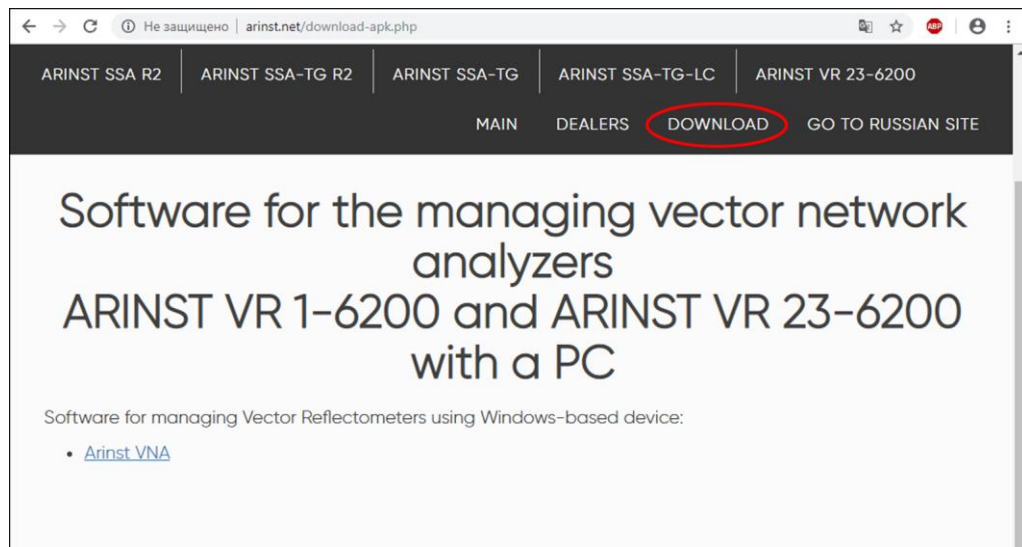

Figure 2.1-Loading the application installer
2.1. Go to the official website of ARINST by entering the address in the address bar of your browser [www.arinst.net](http://www.arinst.net). Go to the DOWNLOAD section and click on the application installation file for managing ARINST vector reflectometers *ArinstVNA* (Figure 2.1).